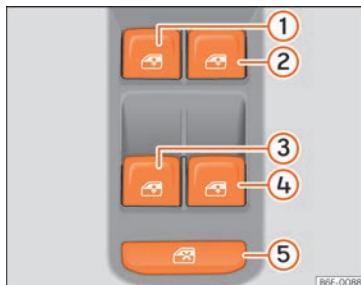

Fig. 92 Detail of the driver's door: window controls.
The safety control »» Fig. 92 ⑤ on the driver door can be used to disable the electric window buttons on the rear doors.